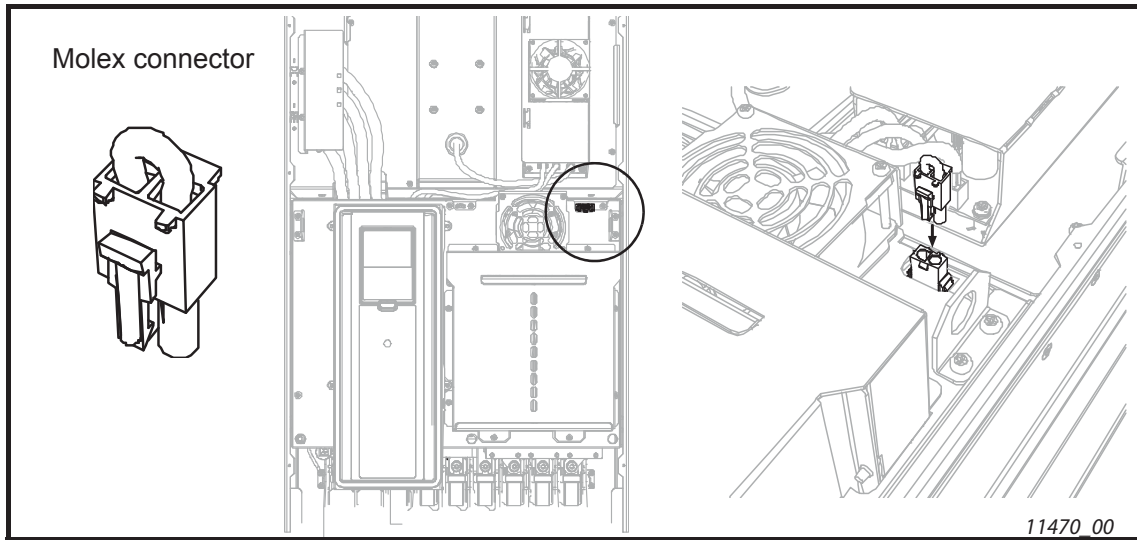

Figure 47.
**1** Find the *Molex* connector in the accessories bag. Remove the main cover of the AC drive and locate the place for the connector next to the fan. Push the Molex connector in its place. See Figure 47.